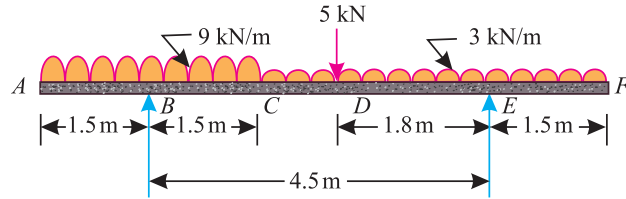

Fig. 12.15.
5. A beam  $ABCDEF$  of 7.5 m long and span 4.5 m is supported at  $B$  and  $E$ . The beam is loaded as shown in Fig. 12.15.